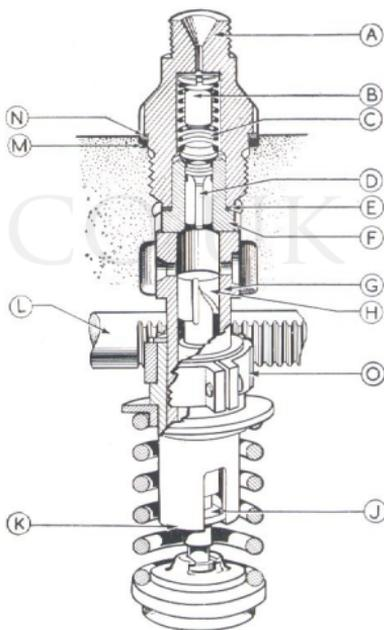

Fig. 75. The pumping element assembly.
Each pumping element comprises of a barrel (G) and plunger (H), see Fig. 75, and are of highly ground and hardened steel, finished to a high degree of accuracy to permit operation at high speeds and pressures. Thus, each pair must be regarded as inseparable and not interchangeable.
The lower end of the plunger (H), Fig. 75, carries a lug, or toe (J). This engages in a slot in the skirt of the control quadrant (K). Around its upper flange, the quadrant is machined to form gear teeth, and these engage with similar teeth on the control rack (L), the latter running the length of the pump and engaging the quadrant of each pumping element. Thus, movement of the rack causes all the plungers to rotate in unison and selects the position of the helices corresponding to the fuel delivery required.
The delivery valve seating is held against the top of the element barrel (G), Fig. 75, both faces of this joint being lapped flat. The seating is held down by the delivery valve holder (A), which is screwed in to the pump body, a washer (E) being inserted between the valve seating (F) and the holder (A), to prevent leakage of high-pressure oil down the inside of the holder. Leakage of oil at low pressure up the threads in the pump body is prevented by a synthetic rubber seal ring (M), with a steel slip washer (N), which is trapped in a counterbore in the pump body by the delivery valve holder.